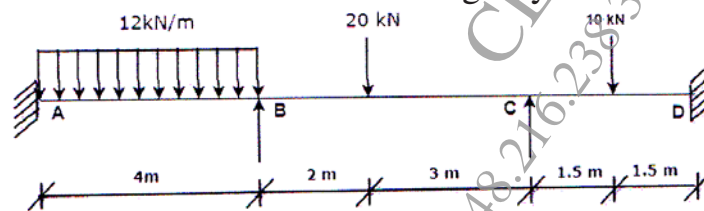

Figure 6
- b) Analyse the continuous beam shown in figure 6 by moment distribution method. Assume uniform flexural rigidity. [9]